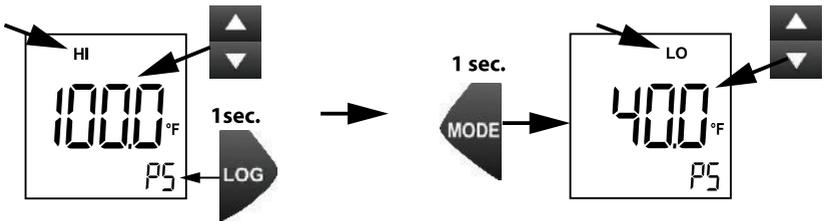

Figure 9.1 Setting the high and low alarm set points in the programming menu.
The first parameter shown in the menu is the high (HI) alarm set point as shown in Figure 9.1, below. Use the arrow buttons to select a high alarm set point. Press the LOG button to select a preset (P1...P5); you can program 5 sets of high/low set points. Press the MODE button to move to the low alarm (LO) set point parameter. Use the arrow buttons to select the low alarm set point.